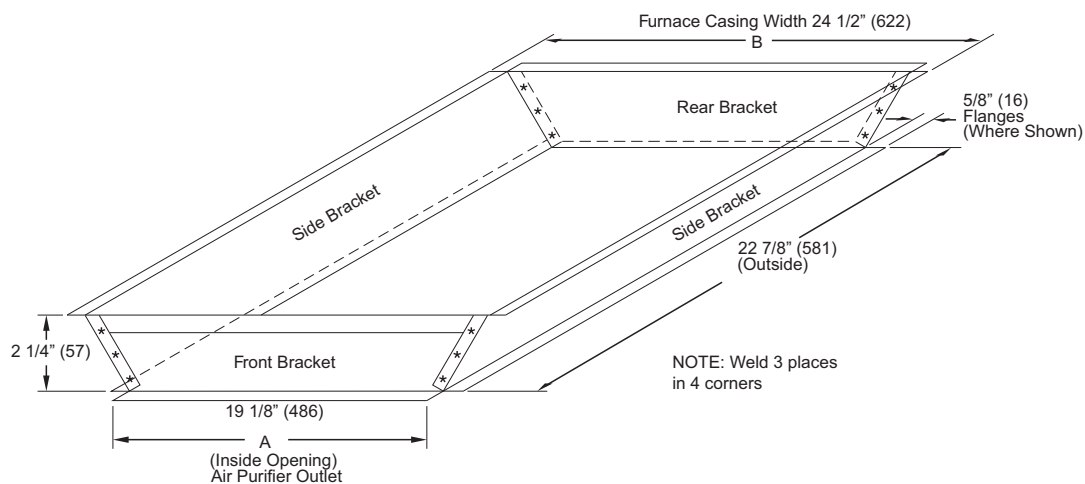

Fig. 10 – Transition
1. Prepare transition, following recommended transition drawing (see Fig. 10). Fabricate a 2 1/4 inch (57 mm) tall (minimum) transition.